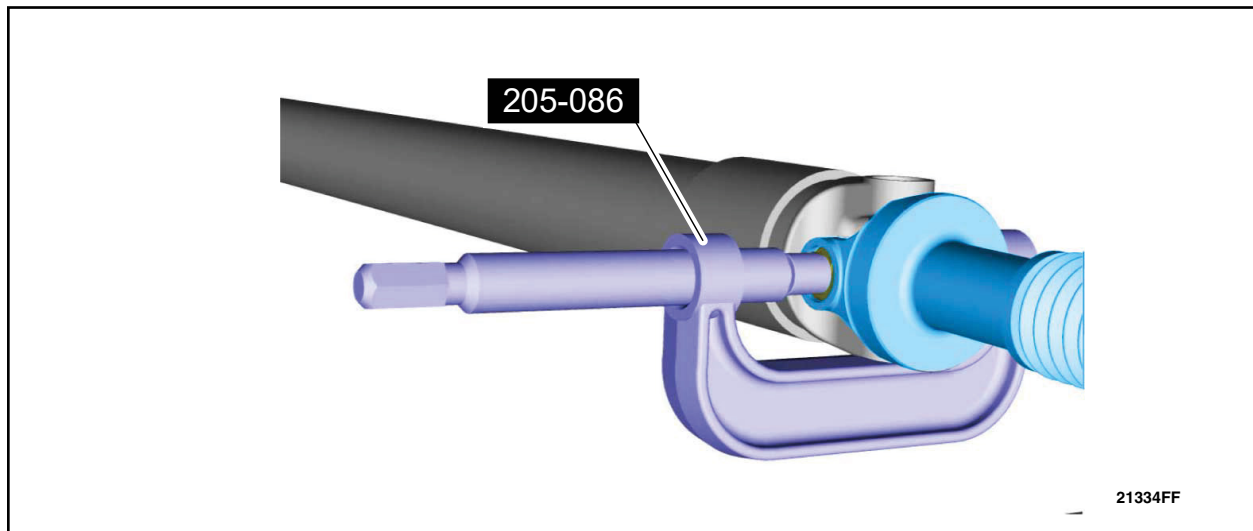

FIGURE 31
42. Using the special tool (205-086), press the u-joint bearing cups out of the driveshaft yoke and remove the driveshaft yoke. See Figure 31.